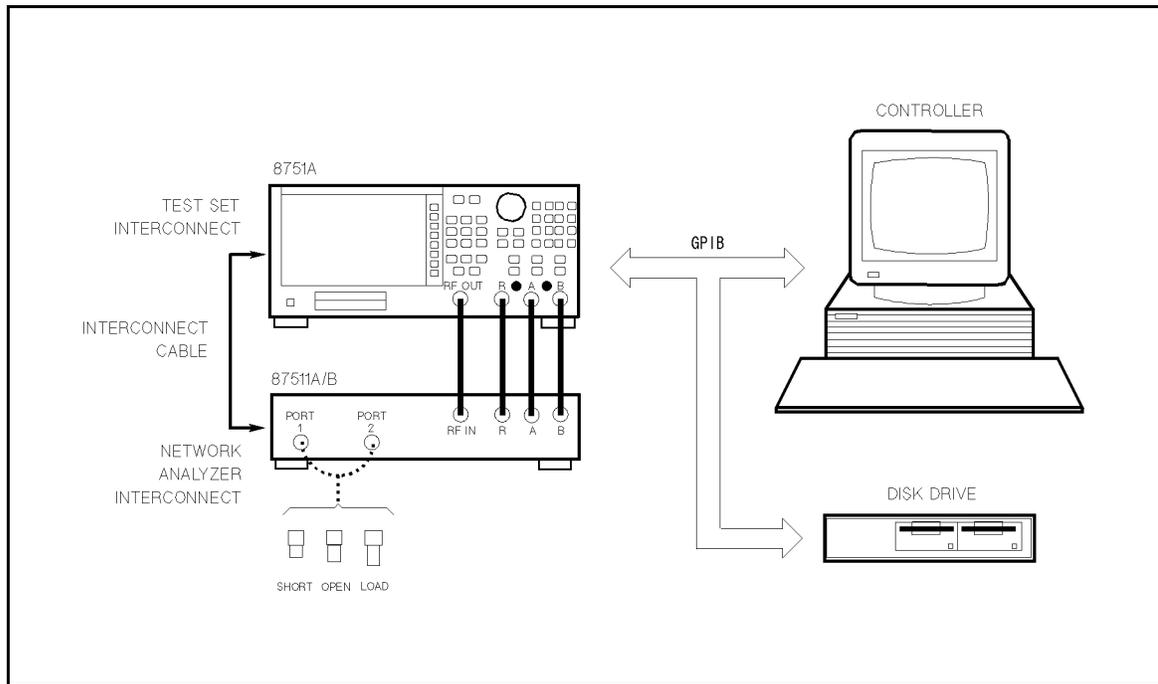

Figure 4-3. Effective Source Match Test Setup
1. Connect the equipment as shown in Figure 4-3.